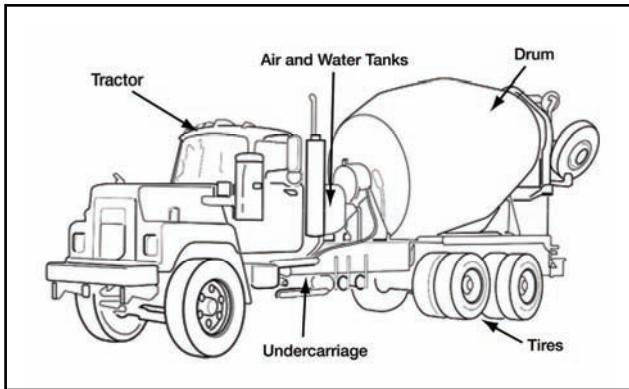

Figure 191-376-5141-14. Concrete Truck or mixer
- o. Determine if the commercial vehicle is a dump truck (see figure 191-376-5141-15).